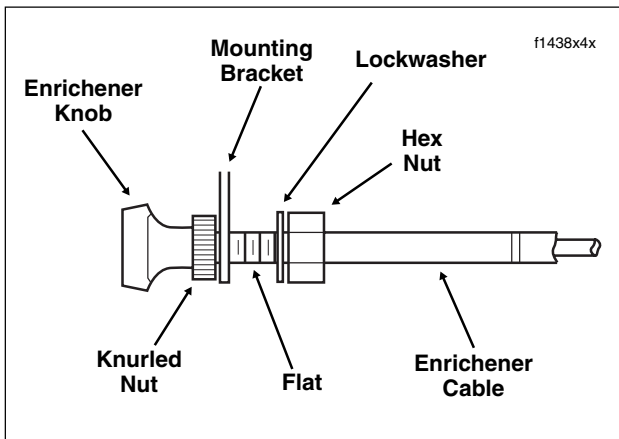

Figure 1-17. Enrichener Control
1. See Figure 1-17. Loosen hex nut at backside of mounting bracket.